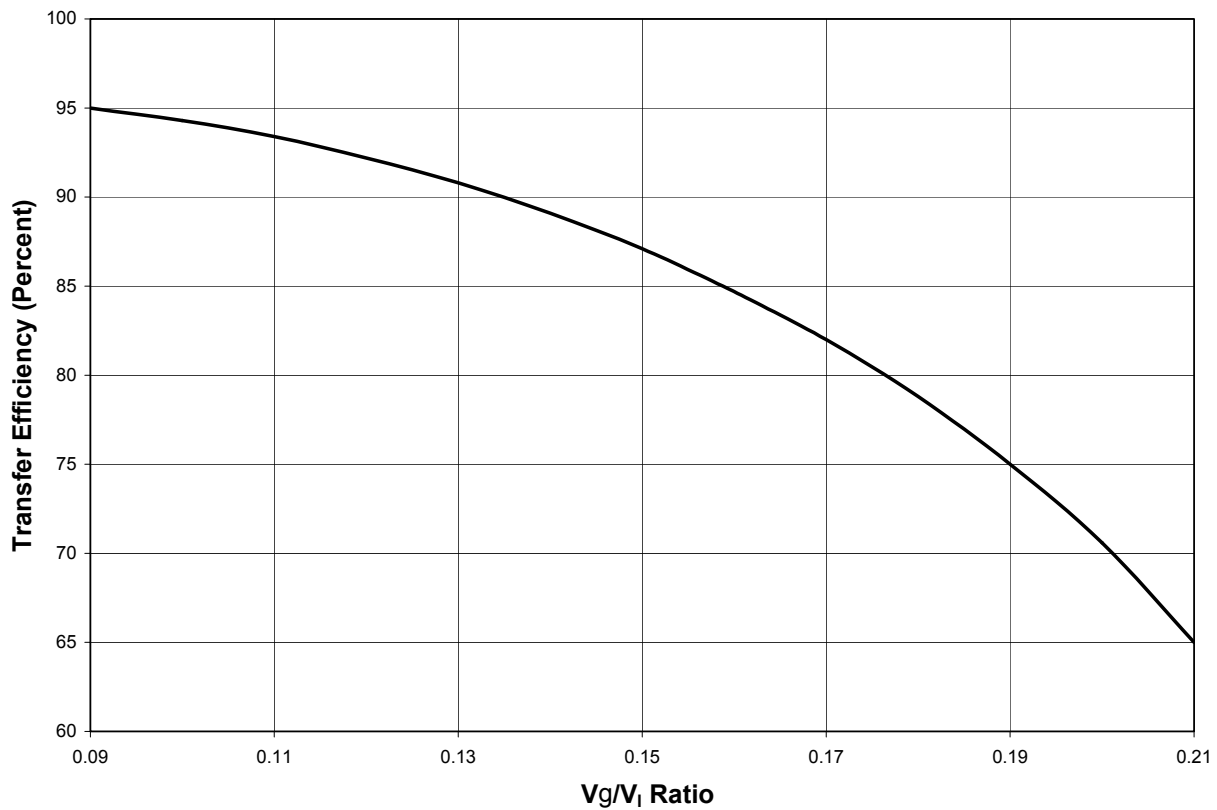

Figure A.1 – Side Stream System Transfer Efficiency
- Figure A.1 shows how transfer efficiency may vary for V_g/V_l ratios between 0.1 and 0.2 for a typical side stream system.